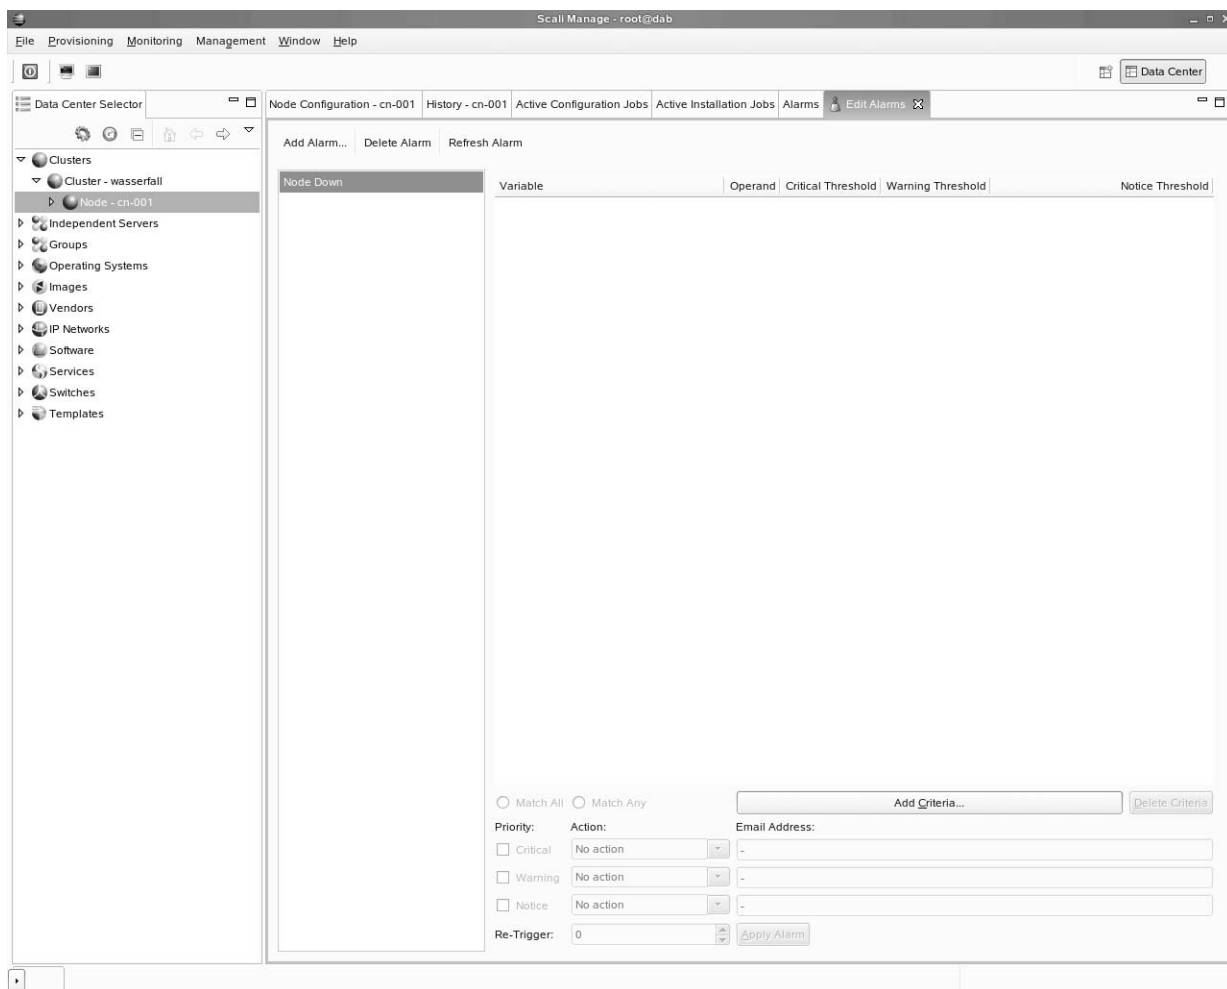

Figure 2-16 Add Criteria Screen Example
- 6. At this time you must enter the criteria that trigger the alarm. Click on “Add Criteria” (see Figure 2-16 on page 62.)